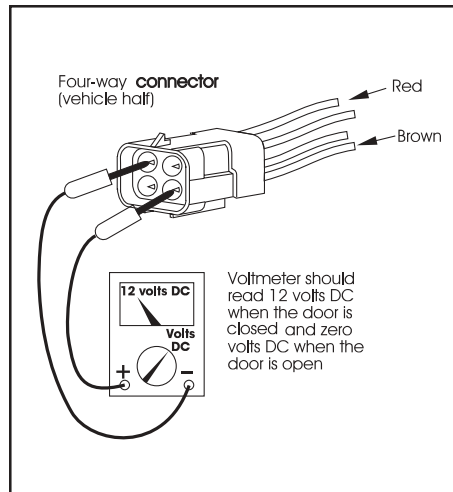

Figure 8 - Checking the door switch
14. To check the door switch, connect a voltmeter between the red wire from the 4-way connector (vehicle half) and the brown in the same connector (see Figure 8). The voltage should be a minimum of 12 volts DC